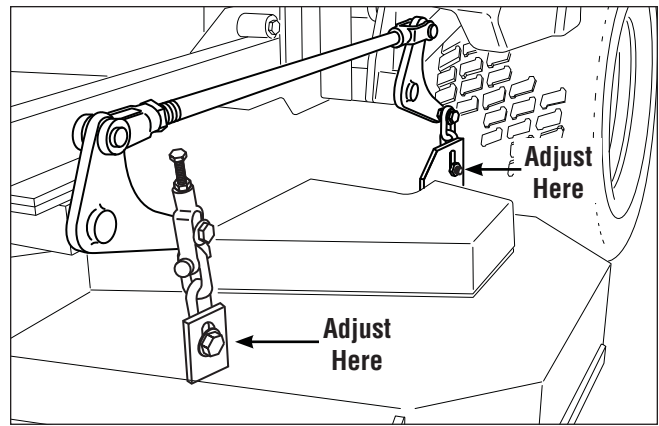

Figure 39. Hanger Chain Adjustment
4. Loosen the nuts and allow the front of the deck to rest on the 2 x 4's. Slide the chains down in the slots until the chains are tight and tighten the nuts. See Figure 39.
5. Loosen the nuts and allow the rear of the deck to rest on the 2 x 4's. Slide the chains down in the slots until the chains are tight and tighten the nuts. See Figure 39.